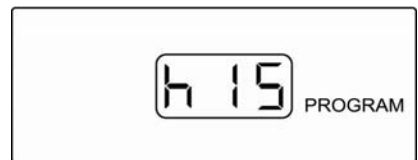

Figure 2-14
- 3) To adjust the Day (D), Press and hold the “S” button for 3 seconds until the first digit begins to flash. Use the “Up” and “Down” arrows to adjust the numeric value and the “Left” and “Right” arrows to change the digit being adjusted. Once the Day (D) has been entered, press and hold the “S” button for 3 seconds to proceed to the Hour (H) setting (See Figure 2-14).